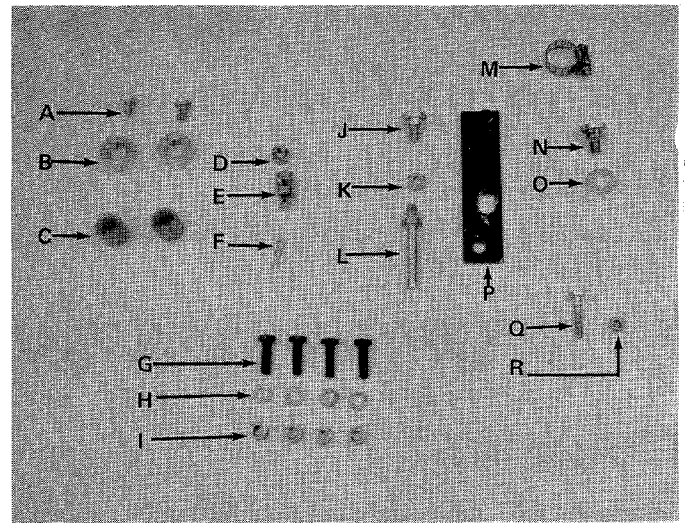

FIGURE 1
## LIST OF CONTENTS IN HARDWARE PACK: See figure 1.
1. Remove the engine (with frame), two wheels engagement rod, engagement handle, hoses and hardware pack. See figures 1 & 2.